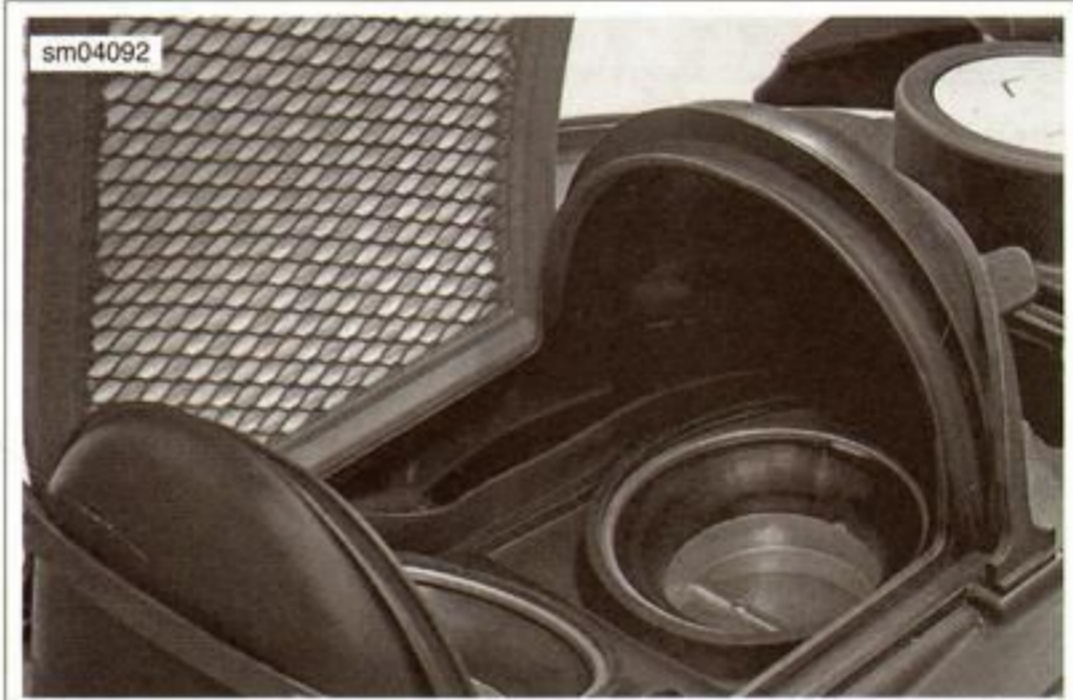

Figure 1-11. Installing the Air Filter Element
2. See Figure 1-11. Insert the air filter element seal into one end of the air box baseplate.